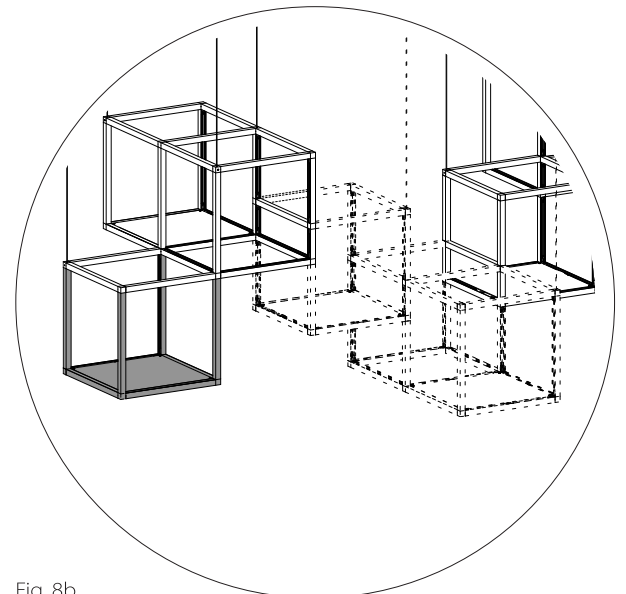

Fig. 8b
- 6b. Section as part of whole assembly shown in Fig. 8b.